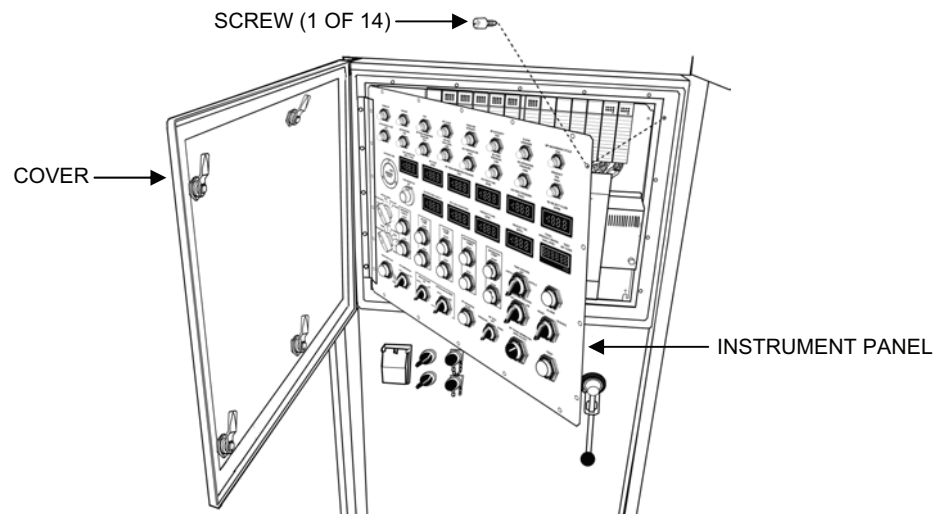

Figure 8. Opening the OCP Instrument Panel.
1. Open the cover to the OCP (see Figure 8).